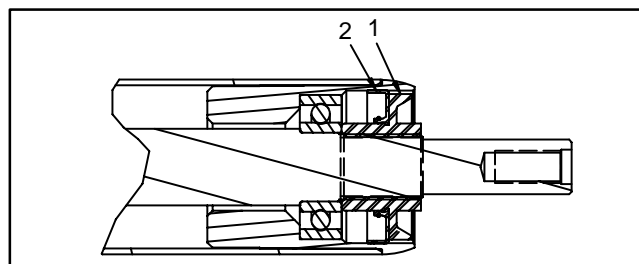

Figure 27
E. Install a nut with seal onto each end of the roller shaft. Tighten nuts until they bottom against bearings (Fig. 27). Remove nuts from roller shaft.